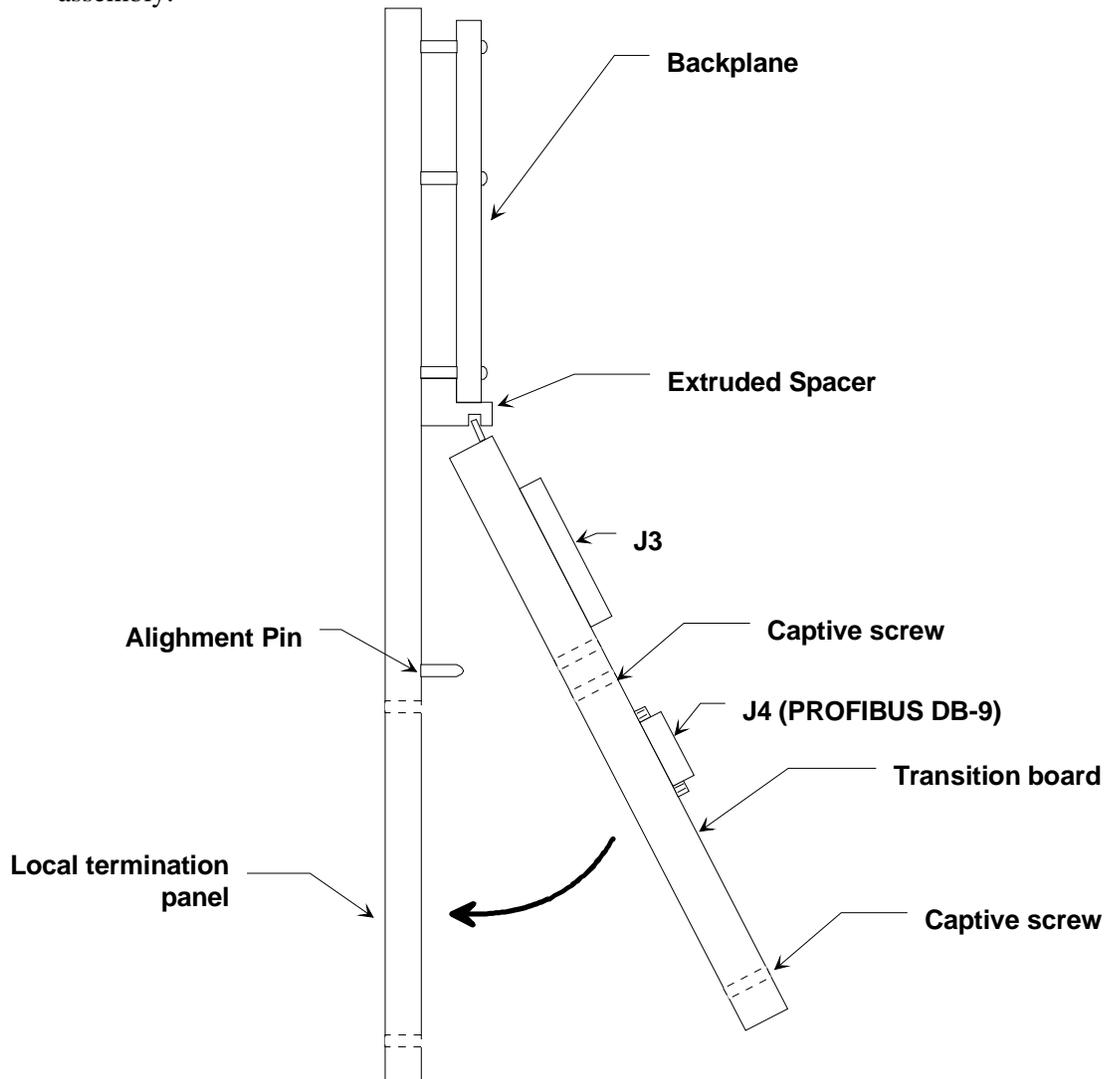

Figure 2–2 Transition Board Installation
See Figure 2–2, which shows how the transition board is installed. The transition board assembly consists of a PFM transition board, a mounting support, and a set of captive screws.
3. Slide the top edge of the transition board assembly into the groove on the extended spacer, as shown in Figure 2–2.
Each APACS+ slot and each module can be keyed to prevent accidental installation of a module into an incompatible slot, which may impair system performance. **Module and rack keying is highly recommended**; see Figure 2–3.
2. Refer to Figure 2–3 and note the rack-keying pattern applicable to the PFM. Also, locate the rack's top and bottom rails.
4. As shown in Figure 2–3, pivot open the bezel's pivoting top and bottom handles to expose the slotted captive mounting screws then secure the module to the top and bottom rails. Close the bezel's handles when finished.